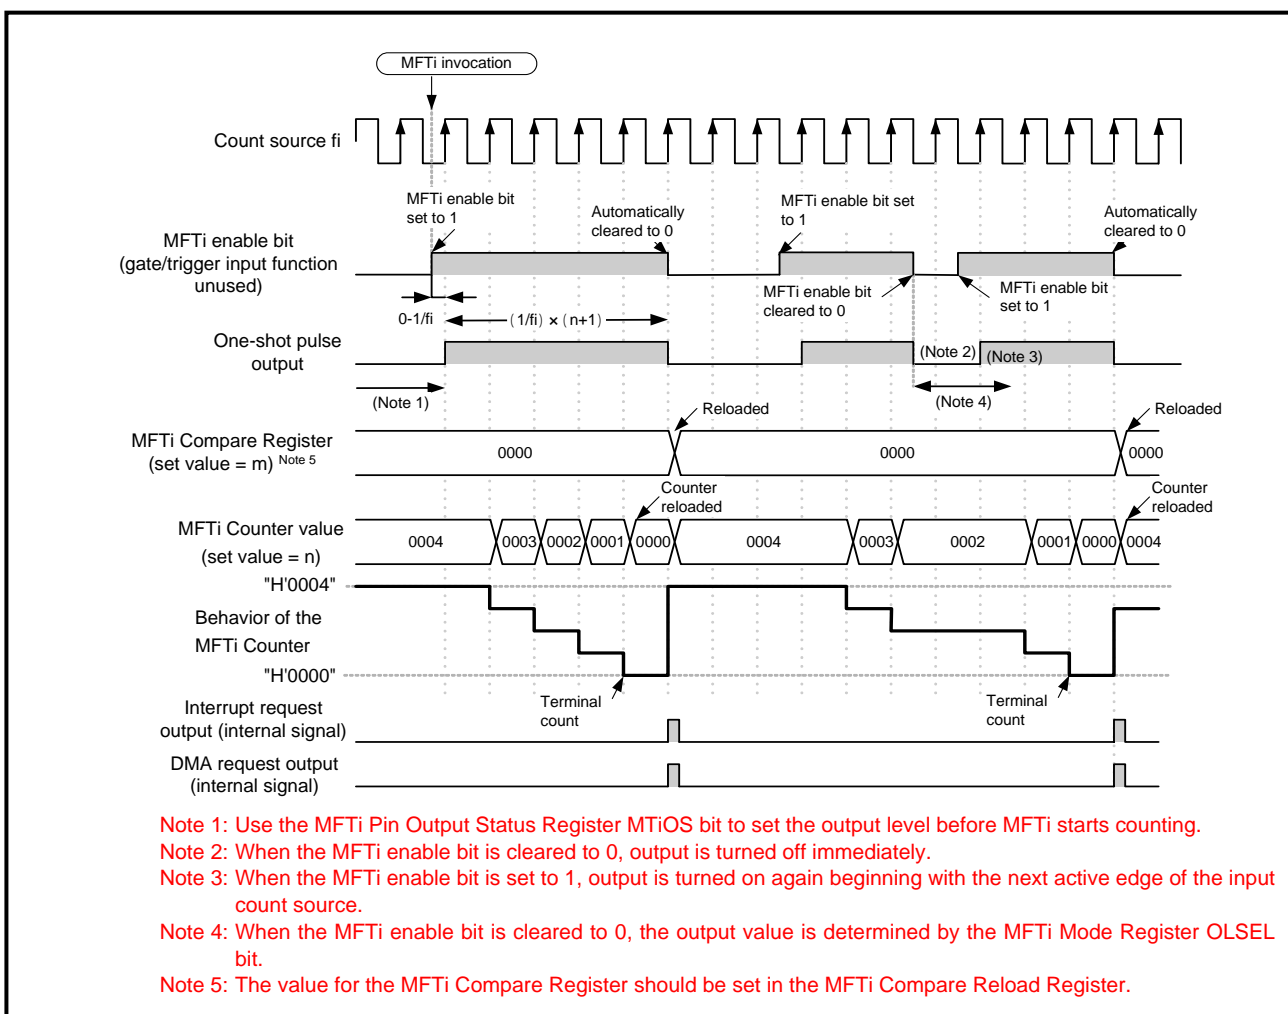

Figure 12.3.14 Example Operation Timing of MFTi when Acting as One-shot Timer
(3) Operation of MFTi as the one-shot timer
Figure 12.3.14 shows example operation timing of MFTi when acting as the one-shot timer that was set in (2).